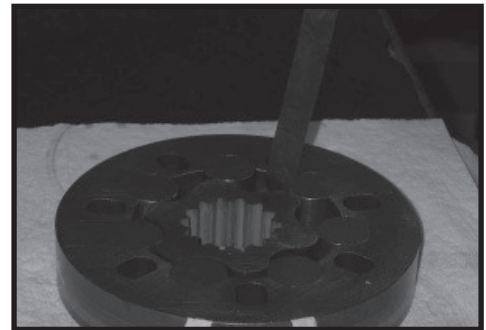

Figure 16
11. Place rotor set (8) and wear plate (9) on a flat surface and center rotor (8A) in stator (8B) such that two rotor lobes (180 degrees apart) and a roller vane (8C) centerline are on the same stator centerline. Check the rotor lobe to roller vane clearance with a feeler gage at this common centerline. If there is more than .005 inches (0.13 mm) of clearance, replace rotor set. SEE FIGURE 16.